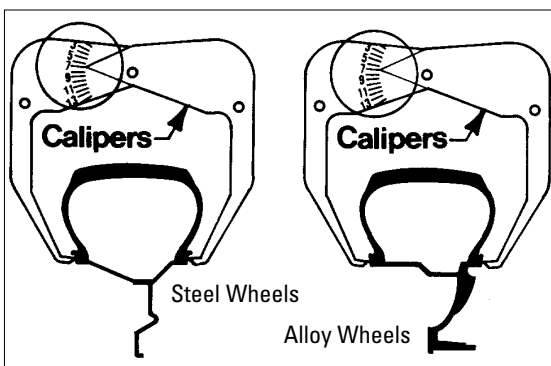

Figure 13 - Using the Calipers to Measure Wheel Width
3. Place the calipers over the wheel; measure the width of the wheel. Refer to Figure 13.